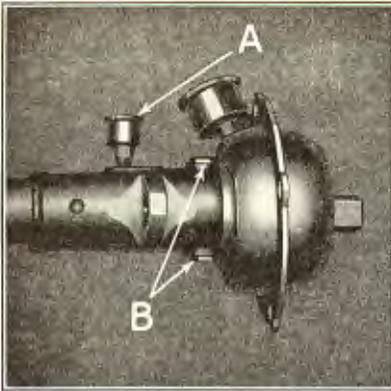

Fig. 331
575 Run out grease cup (See "A" Fig. 331) and the two joint housing plugs "B".
- 592** Insert the two joint housing plugs (See "B" Fig. 331) into drive shaft tube.
- 593** Fill grease cup with grease and screw it into shaft (See "A" Fig. 331), then remove cup, again filling it with grease and screwing it down into shaft. Drive shaft assembly is now completed.